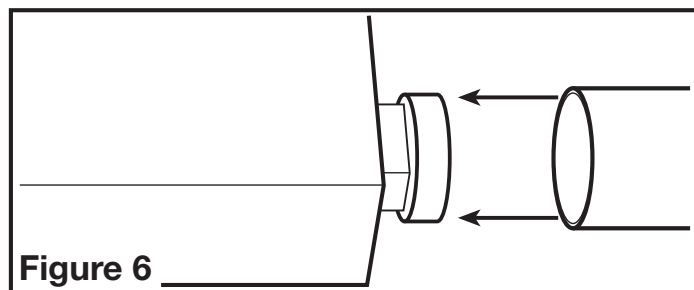

Figure 6
1. Remove any tape that might be holding the damper in place. Connect the ducting to the fan's duct collar (Figure 6) and secure in place using tape or screw clamp. Always duct the fan to the outside through a wall or roof cap.